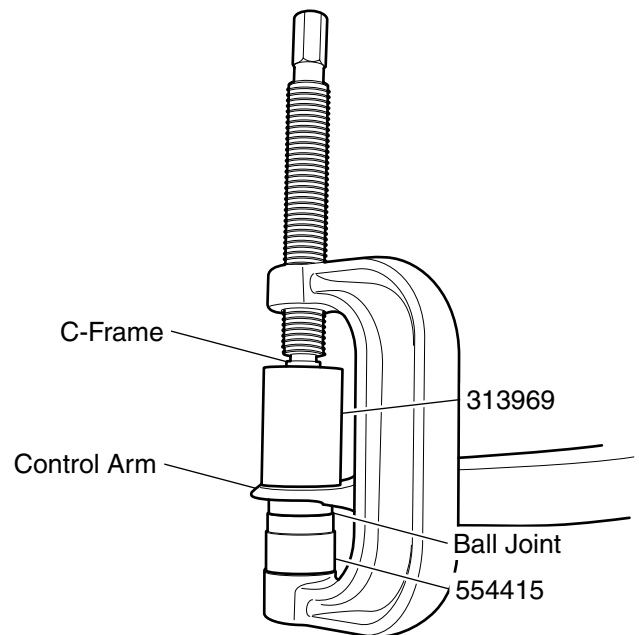

Figure 2. Ball Joint Installation
3. Position 554415 and 313969 on the ball joint as shown in Figure 2.